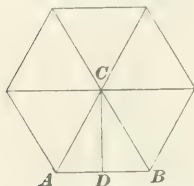

FIG. 52.
EXAMPLE 2.—Find the cubical contents of a hexagonal prism, Fig. 52, 12 inches long, each edge of the base being 1 inch long.
3. What is the area of the entire surface of the hexagonal prism whose base is shown in Fig. 52?